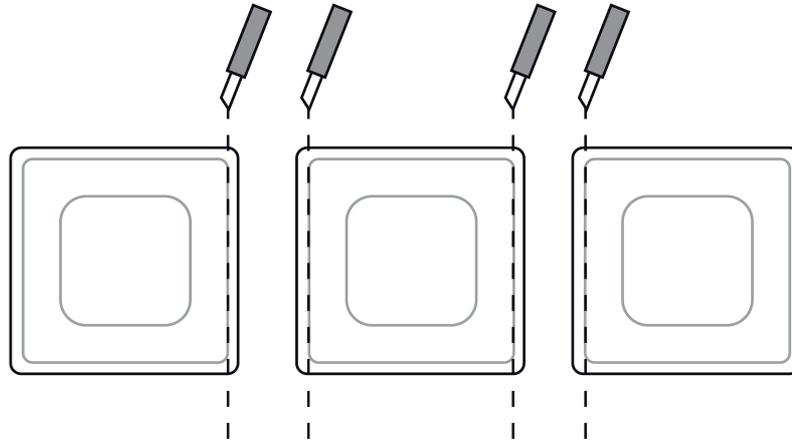

Figure 3: Cutting the adhesive pads for multiple combinations
- ❗ In the case of multiple combinations, the abutting sides of the adhesive pads must be cut along the external punching using a ruler and a cutter (figure 3).